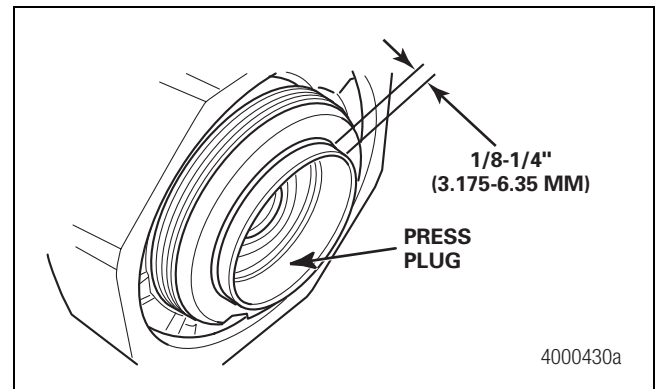

Figure 16
- Check that the press plug protrudes from 1/8-1/4-inch (3.175-6.35 mm) from the end of the spindle. Figure 16.